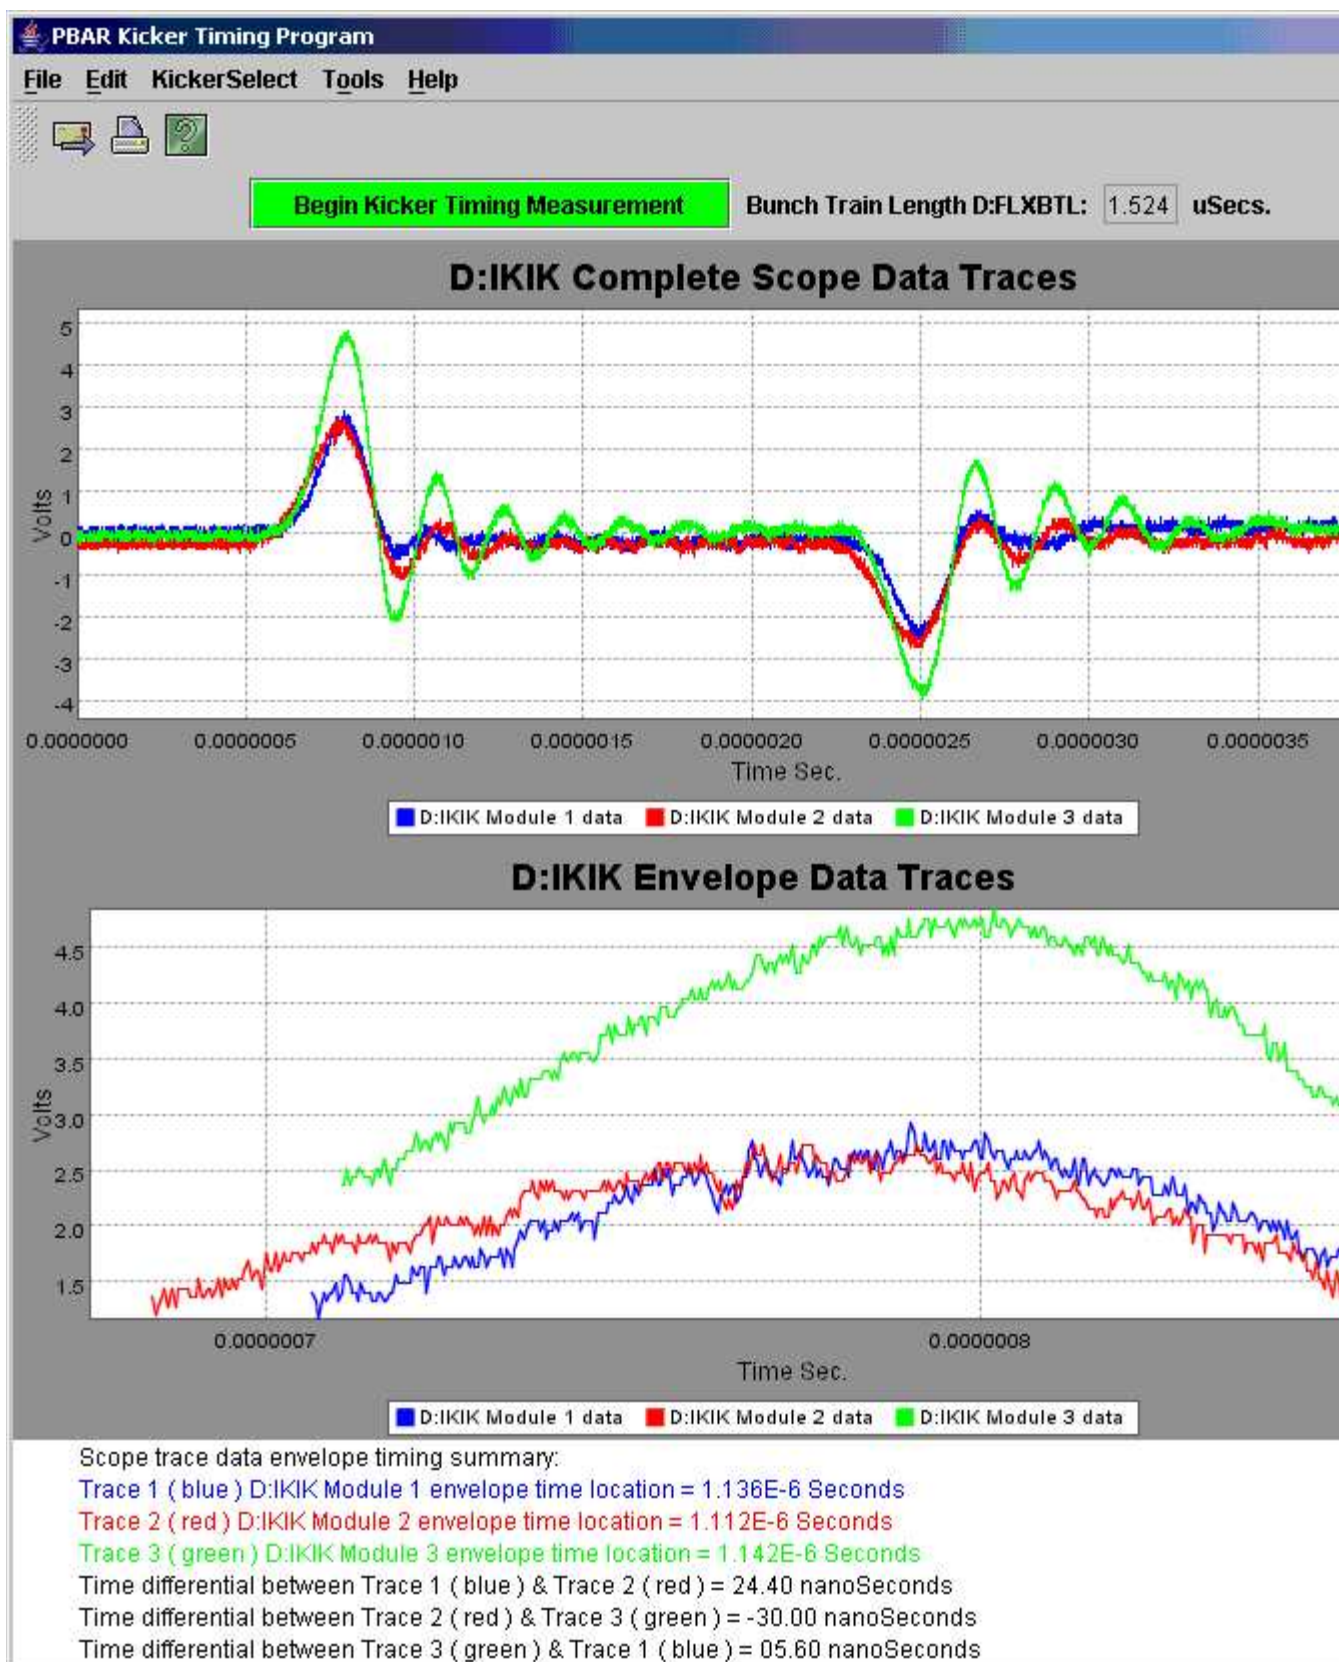

Figure 19: The Pbar Kicker Timing Program shows the Debuncher Injection Kicker scope traces. Comparing the
9. Examine the Pbar Kicker Timing application (see Figure 19) to see if the kicker trace alignment is converging. The value of D:FLXBTL should be the same or larger than that seen in Step 6. Click on the green box that is labeled "Begin Kicker Timing Measurement" as shown in Figure 19.